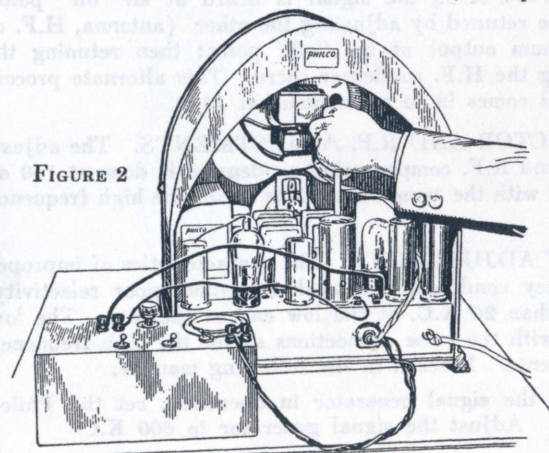

FIGURE 2
1. Connect from the "A" terminal of the signal generator to the Antenna terminal of the broadcast receiver. All other connections remain the same as for adjustment of the I.F. compensating condensers. See Fig. 2 for complete connections.